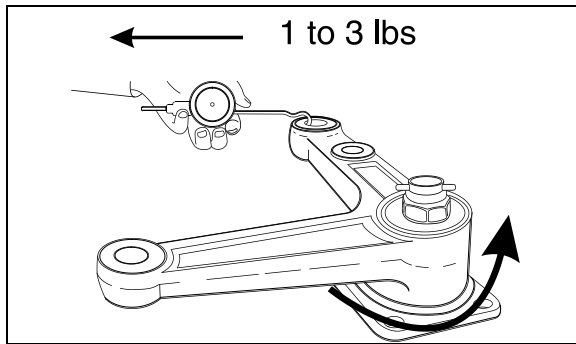

FIGURE 17: BELL CRANK 16045
11. Unscrew nut until bell crank or idler arm starts to turn with the application of 1 to 3 lbf load as shown on figure 17.